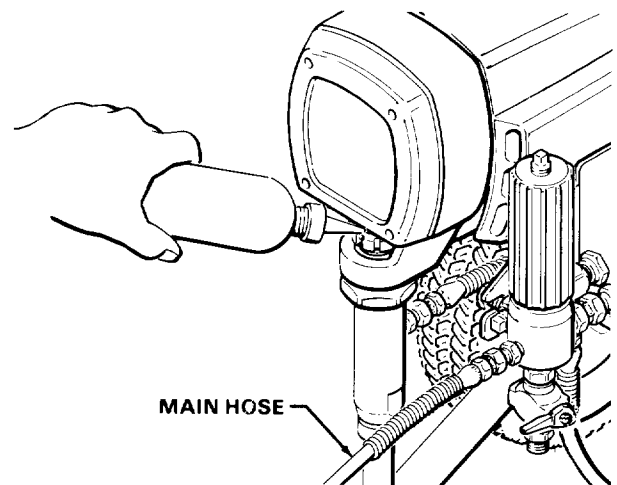

Fig 2
3. Never install any shutoff device between the filter and the main hose. See Fig 2.
2. **Fill Packing Nut/Wet-Cup** (See Fig 2.) Fill the packing nut/wet-cup 1/3 full with Graco Throat Seal Liquid (TSL), supplied.